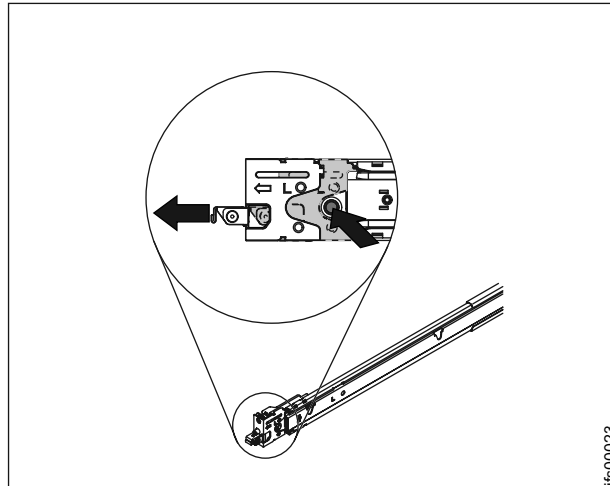

Figure 39. Install the rear end of the slide rails
5. Push the blue button to allow the latch to slide forward, as shown in Figure 39 on page 83.